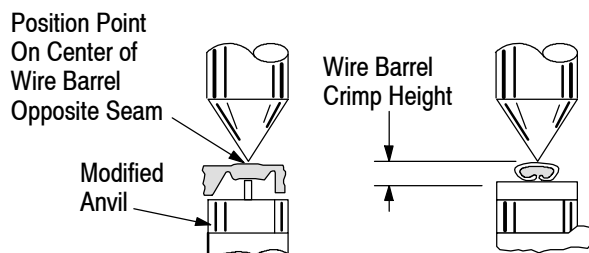

Figure 3
This inspection requires the use of micrometer with a modified anvil (commonly referred to as a crimp height comparator) as shown in Figure 3. TE Connectivity does not market crimp height comparators. Refer to Instruction Sheet 408-7424 for detailed information on obtaining and using a crimp height comparator.
3. Using a crimp height comparator, measure wire barrel crimp height as shown in Figure 3. If the crimp height conforms to that marked on the tool, the tool is considered dimensionally correct. If not, return tool to TE for evaluation and repair (refer to Section 6).